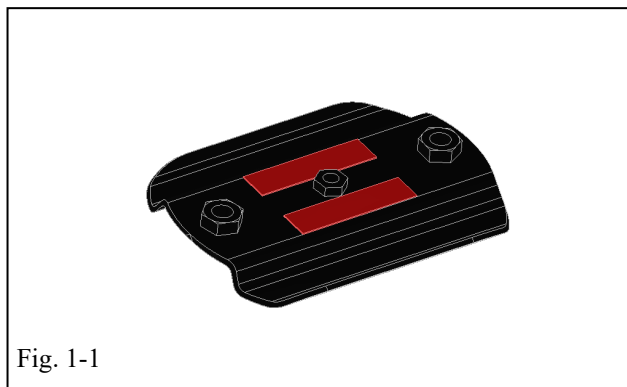

Fig. 1-1
- (b) Apply 2 strips of 3M double-sided tape to each of the 4 brackets. (Fig. 1-1)